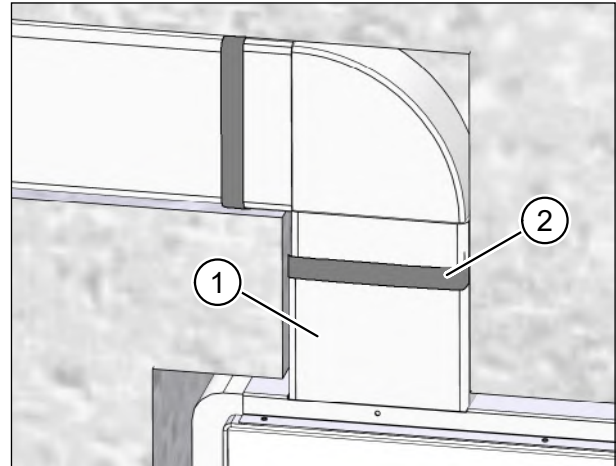

Fig. 26: Fixing ductwork connections with sealing tape
- ▶ Insert a fitting, e.g. the flat ductwork connector M-WRG-FK-V, part no. 5591 (item 1 in Fig. 26), into the opening in the wall box.
- ▶ Insert the first section of the flat ductwork into the fitting, e.g. the flat ductwork connector M-WRG-FK-V, part no. 5591, on the wall box and seal the join with sealing tape (item 2 in Fig. 26).